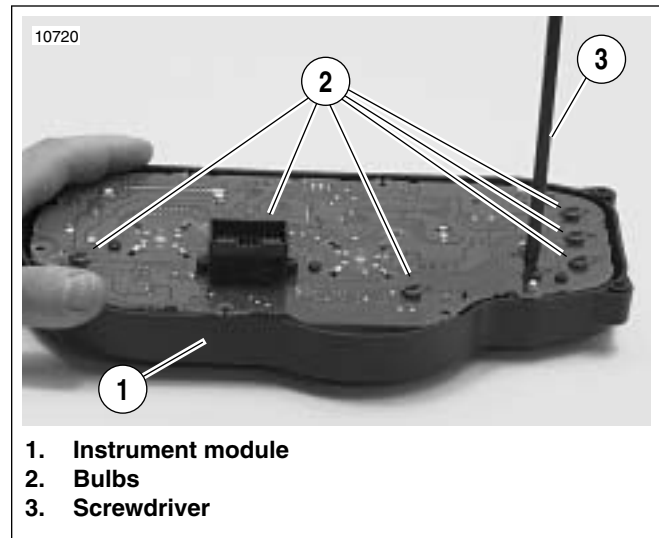

Figure 7-68. Bulb Replacement for Instrument Module
3. See Figure 7-68. Insert screwdriver blade into the slot on the back of the bulb to be replaced and lightly turn counterclockwise and remove bulb.